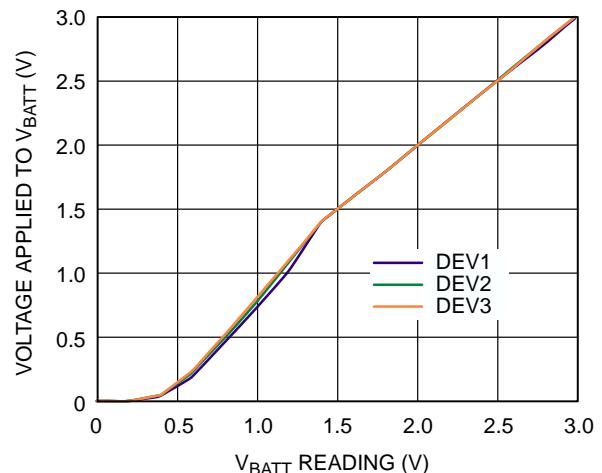

Figure 16. Applied Voltage vs. V_{BATT} Reading
4. Note that this specification does not apply if Pin 26 (V_{BATT} , +1.2V) is being measured in single-channel mode. See Figure 16 in the Typical Performance Characteristics section for V_{BATT} accuracy.